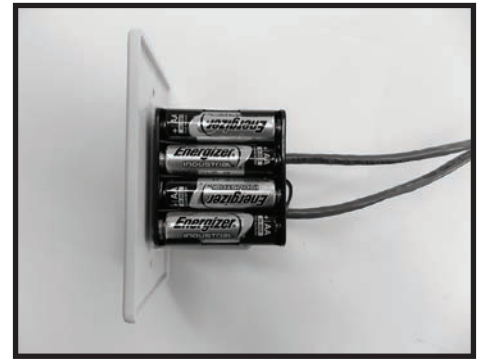

Figure 33: Wall switch battery side.
8. Insert the 4 supplied "AA" batteries into the battery pack of the wall switch (Figure 33).